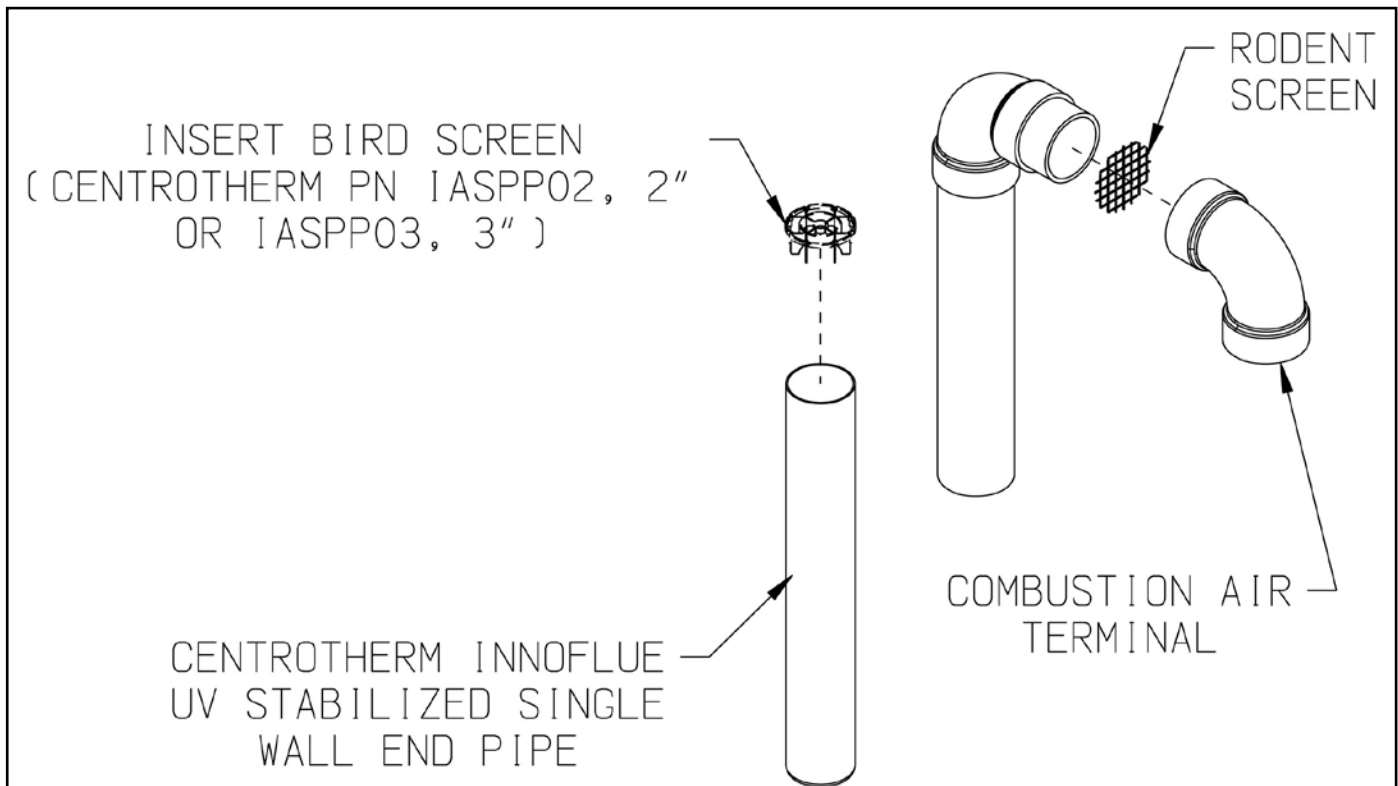

Figure 7.46: Installation of Centrotherm InnoFlue UV Stabilized Single Wall Vertical Terminal
- a. See Figure 7.46 for the proper orientation of twin pipe vertical terminals.
- c. A 180° bend (or two 90° elbows) are installed on the top of the air intake pipe. If two 90° elbows are used, the rodent screen provided can be installed between them (Figure 7.46). If a 180° bend is used, install the rodent screen in the open side of the bend, using a ring made of PVC pipe. If desired, the termination fittings can be attached to the end of the intake pipes with field supplied stainless steel screws so that they can be later removed for cleaning and inspection. If this is done, drill a clearance hole in these fittings and a tap hole in the end of the intake pipes to accept these screws.